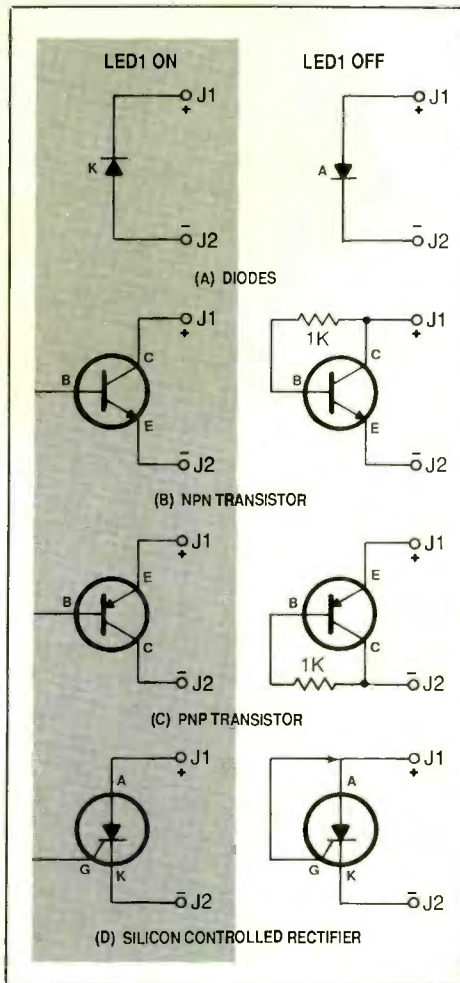

Fig. 5 Connection arrangements to use when testing various types of semiconductor devices.
Using the connection arrangements shown in Fig. 5, the continuity tester handily performs basic good/bad tests on a wide variety of semiconductor devices. If the device being checked fails the test, it has little or no chance of meeting its published specifications. If it passes the test, the device has a very good chance of meeting its specifications.
To check diodes and rectifiers, bridge the device across *J1* and *J2* in both directions, as shown in Fig. 5(A). With cathode *K* connected to *J1* (+) and anode *A* connected to *J2* (-), *LED1* should be on to indicate that the diode is blocking the flow of current. Reversing the device's connections to the jack, the LED should be off, indicating that the diode is conducting.
Figures 5(B) and 5(C) show connections for checking small- and medium-power npn and pnp bipolar transistors. When using the tester to check bipolar transistors, check first with base lead B floating or disconnected. If the transistor is good, the LED should light, indicating that the transistor is off and is not shorted. Connecting a 1,000-ohm resistor from base B to collector C should cause *LED1* to turn off, indicating that the transistor has switched on and is amplifying.
Figure 5(D) shows how to check low- and medium-current silicon controlled rectifiers (SCRs). With gate lead G not connected to anode A, *LED1* should be on to indicate that the SCR is blocking the flow of current. If the LED is off, try opening and closing *S1* on the continuity tester. With the SCR in the blocking mode, momentarily touch gate lead G to anode lead A; the LED should switch off, indicating that the SCR has switched on and is conducting current as it should.